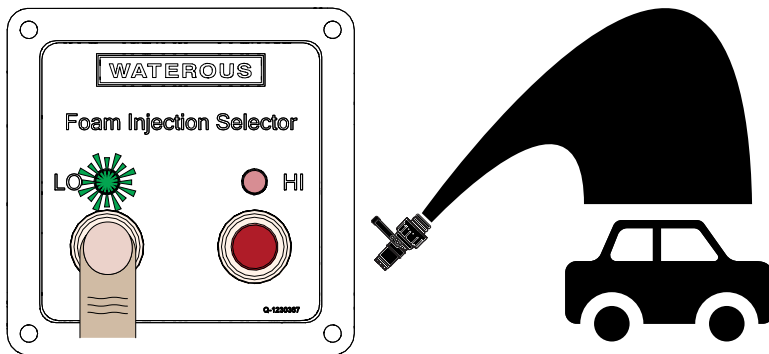
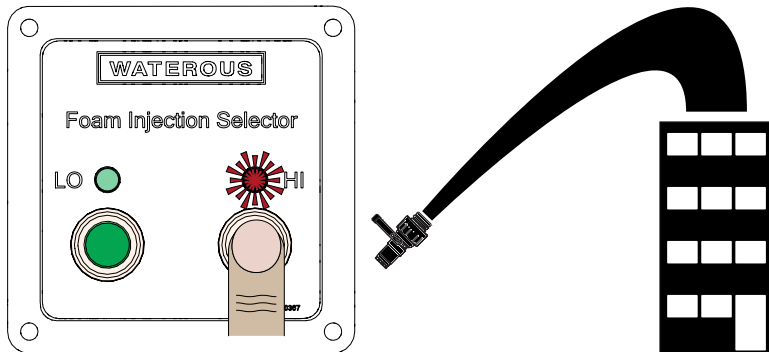

Figure 10
Figure 11
Use the selector panel to select between the low pressure/high volume (Figure 10) waterline, or the low volume/high pressure (Figure 11) waterline. The illuminated LED indicates the enabled port on the electric valve.
1. Press the Lo button to direct the foam concentrate into the low pressure/high volume outlet (Figure 10).
2. Press the Hi button to direct the foam concentrate into the low volume/high pressure outlet (Figure 11).